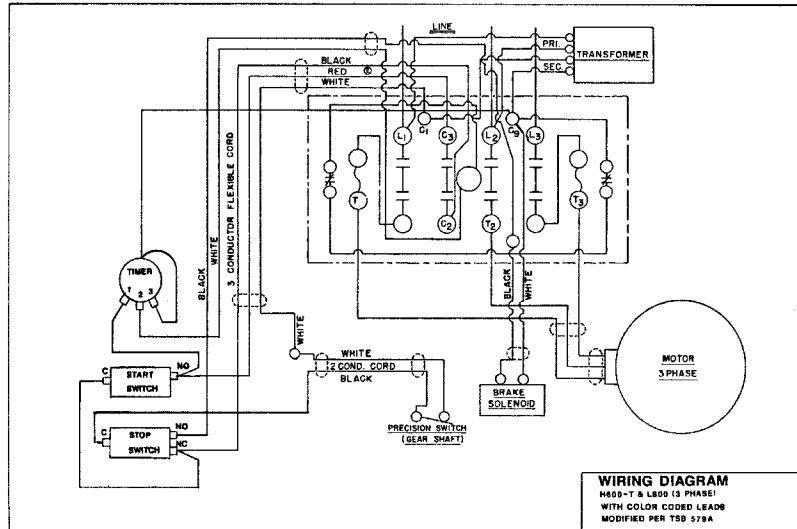

Fig. 6
- B. Connect the leads, refer to Fig. 6, to the new switch plate assembly as follows: